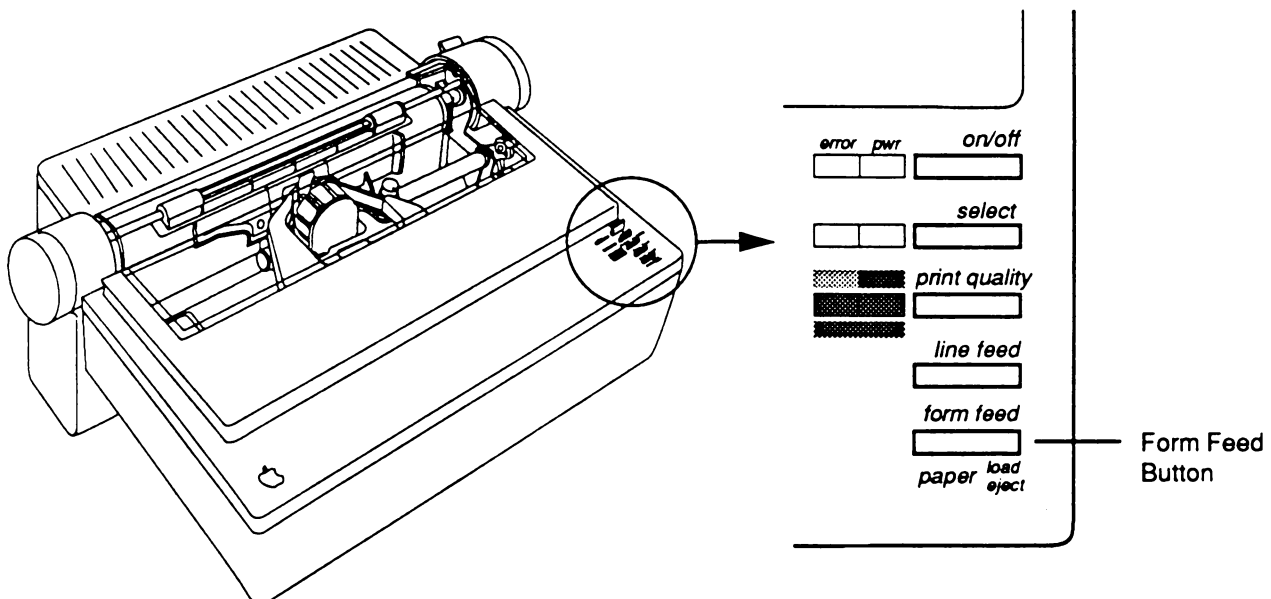

Figure 17. Form Feed button
2. To start the self-test, press the **Form Feed button** (shown in Figure 17) and hold it down while you press the On/Off switch. Release both buttons simultaneously.